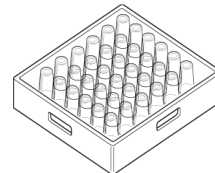

Fig.23
- 2- Load glasses and bowls in upside down position. (Fig.23)